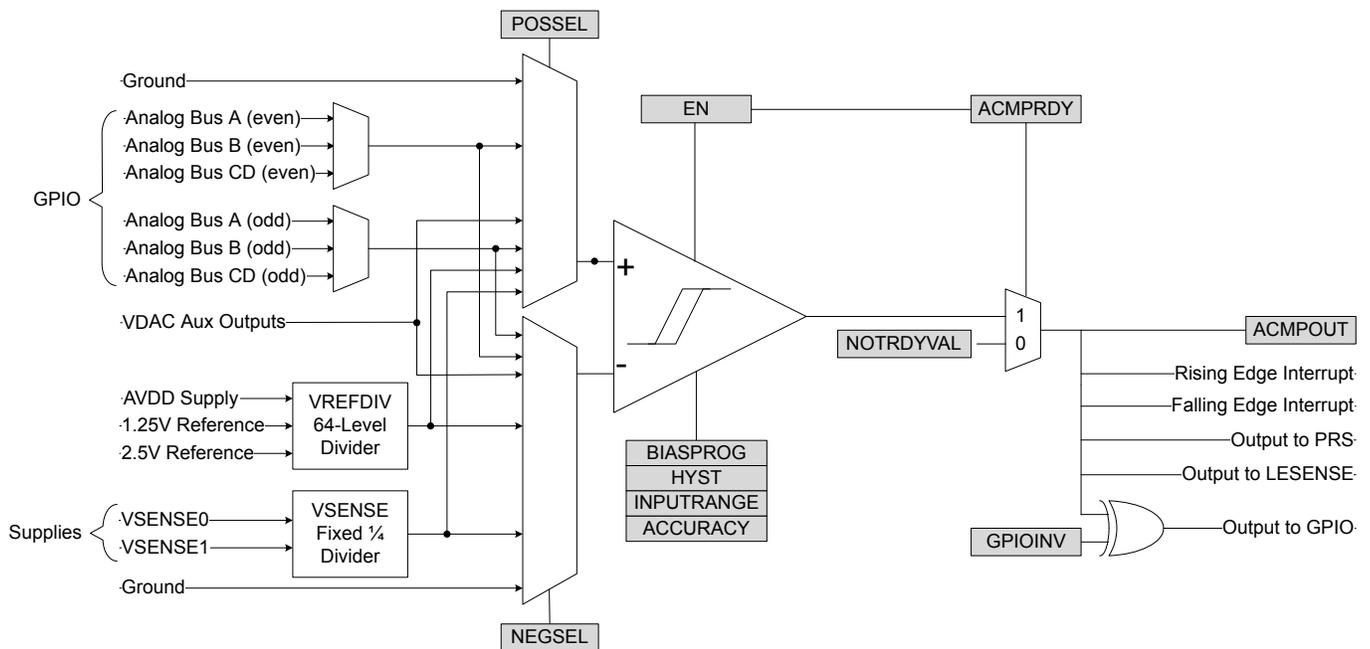

Figure 30.1. ACMP Overview
An overview of the ACMP is shown in Figure 30.1 ACMP Overview on page 1177.
The ACMP can be used to monitor supply voltages. This is done by selecting VSENSE01DIV4(LP) or VSENSE11DIV4(LP) for either POSSEL or NEGSEL. Note that the input to the comparator core will be divided by 4, as illustrated in Figure 30.1 ACMP Overview on page 1177. To reduce energy consumption, a sample/hold circuit can be used to periodically sample the power supplies. To enable this, select VSENSE01DIV4LP or VSENSE11DIV4LP in POSSEL / NEGSEL. Because the sample/hold feature uses the comparator in a non-continuous fashion, enabling this will increase response times and reduce the accuracy of the comparator. The connections between VSENSE0 and VSENSE1 to power supplies are summarized in the table below.